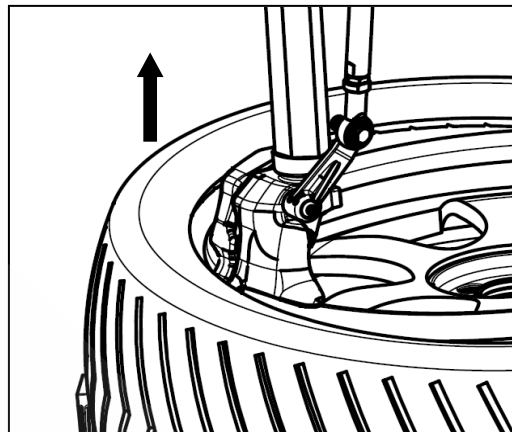

FIG30
- After the demounting head into the tire lip, pull upward the control valve to lift the tire lip onto the circular convex part of demounting head like FIG30. At this time, step the rotation pedal to observe the tire lip and demounting hook, if there's no abnormality, step down the rotation pedal to rotate the turntable clockwise to take out the upper side of tire lip.